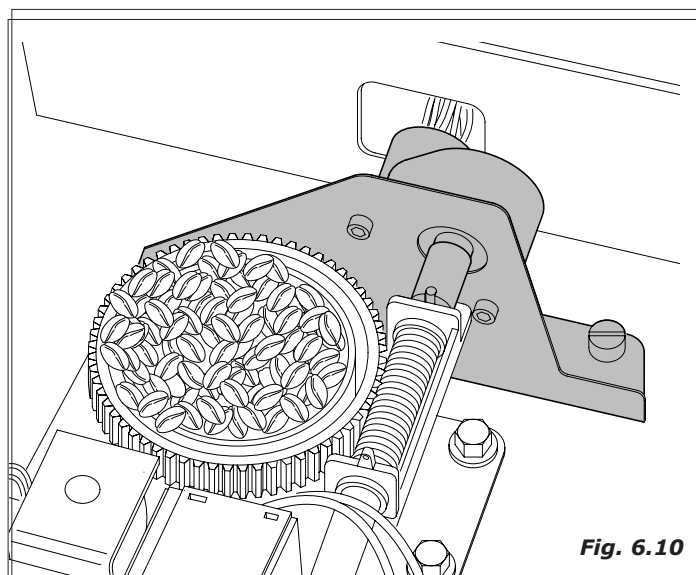

Fig. 6.10
- Automatic adjustment of grinding (Fig.6.10)